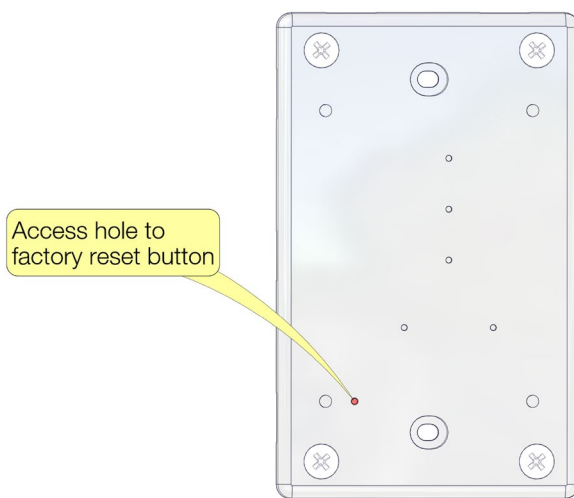

Fig. 23.3.6-1.4
- Remove the front cover of the Apptivate Control Unit, use straightened paperclip to push the reset button (bottom left, near screw head). When pushed, the reset button will cause all lights on the Apptivate Control Unit to light up. Push and hold the reset button until all the LED lights on the ACU begin flashing to indicate that the factory reset has been completed. Snap the cover plate back on. Wait 60 seconds for the touch sensitivity re-calibration to be completed. *Refer to Figure 23.3.6-1.4.*
- If the access hole to the factory reset button is blocked, the factory reset button can be accessed by removing the Apptivate Control Unit from the wall. *Refer to Figure 23.3.6-1.5.*